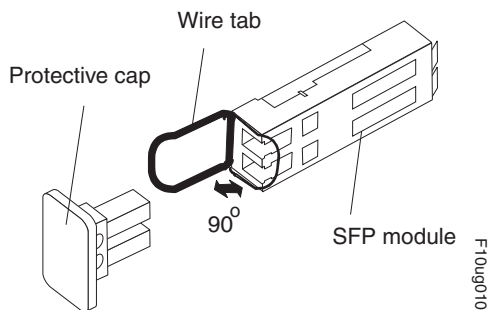

Figure 122. Unlocking the SFP module latch - wire variety
- For SFP or SFP+ modules that contain wire tabs, unlock the SFP or SFP+ module latch by pulling the wire latch outward 90°, as shown in Figure 122.